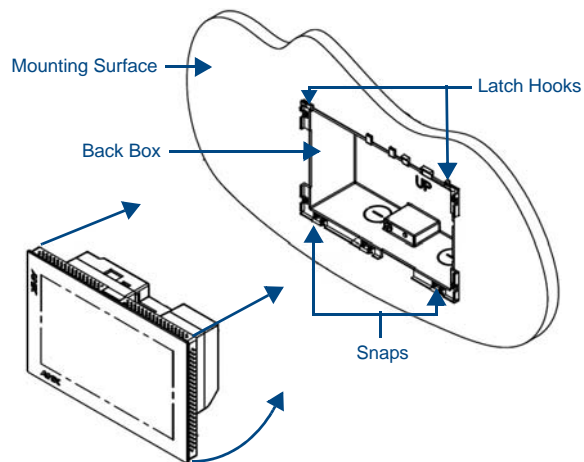

FIG. 5 Installing the MXD-701
7. Latch the panel onto the top hooks on the back box and rotate it down (Landscape) onto the bottom snaps or on the left side and rotate it to the right (Portrait installation) (FIG. 5). Press gently but firmly and evenly on the surface of the glass until the bottom snaps "click" to lock it down.